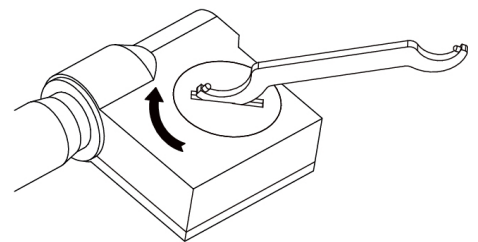

Fig. 3
- » Reattach the battery cover and turn it clockwise to secure it (Fig. 3).